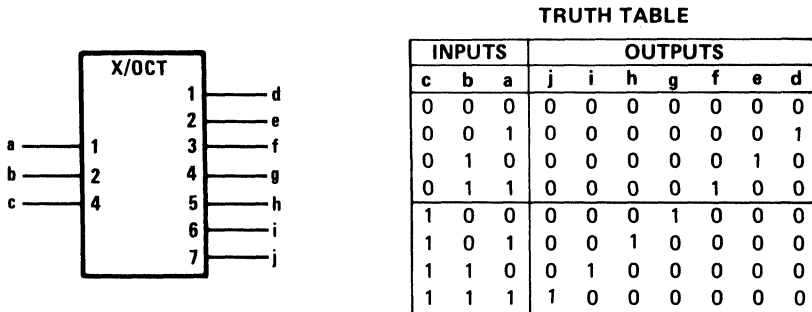

Figure 3-28. An X/Octal Code Converter
- replacing Y by an appropriate indication of the output code and labeling the outputs with characters that refer to this code as in Figure 3-28.